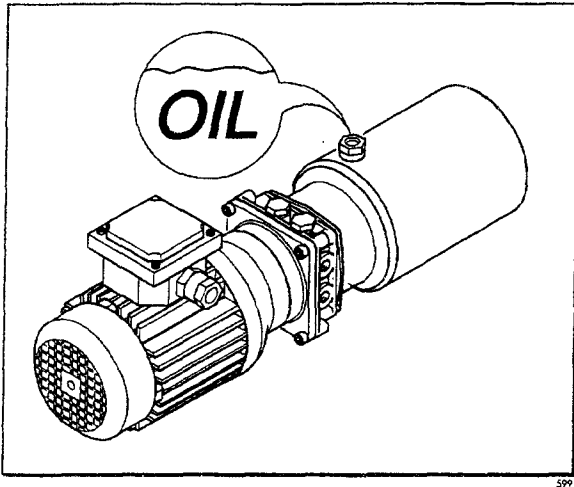

Fig.54
3. Check hydraulic oil level once a month (Fig.54).